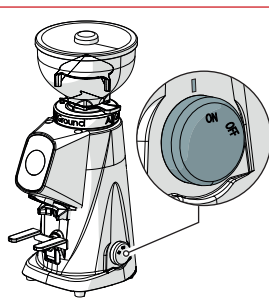

Fig. 11
- Turn the machine power switch to “ON” (Fig. 11).